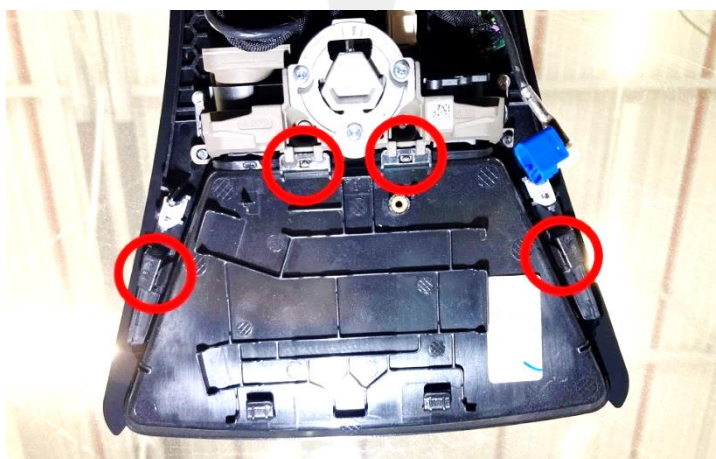

Figure 5 – Push side tabs (x2)
4. Push the tabs (x2) at the side of the camera hood, and then lower the camera hood from the tabs (x2) on the windshield bracket (Figure 5).
5. Attach the tabs (x2) at the top of the new camera hood to the camera assembly, and then engage the tabs (x2) at the side of the camera hood to install the camera hood to the windshield bracket (Figure 5).